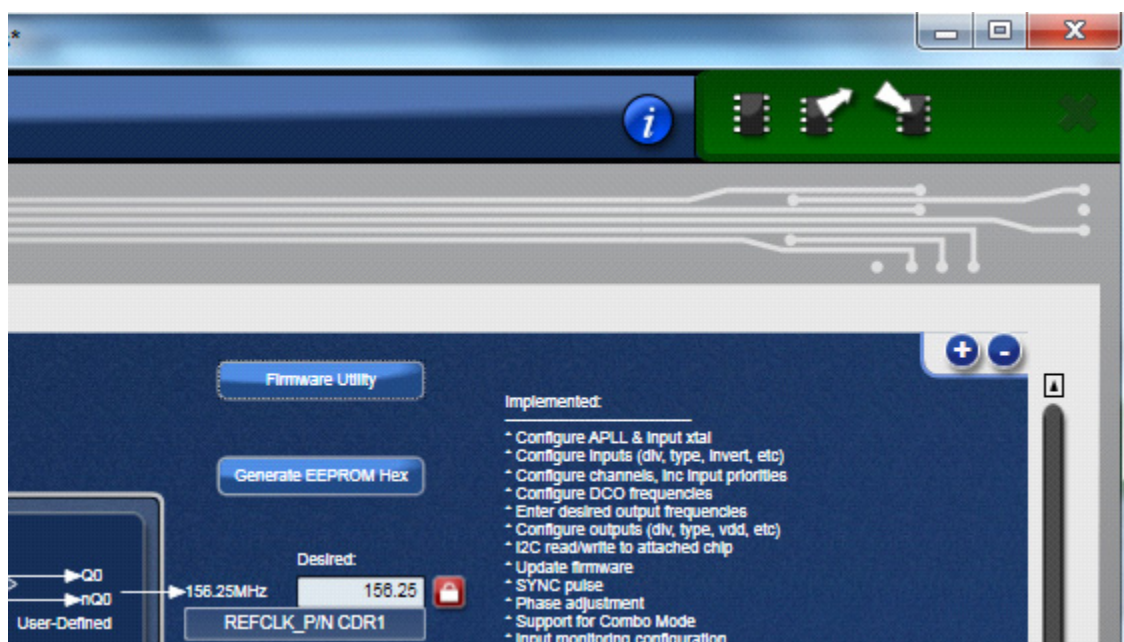

Figure 12. A Green Band Appears when a Valid Connection is Made
6. Click on the chip symbol at the upper-right corner of the GUI window to initiate the connection. The connection is valid when a green band appears at the upper-right corner of the window, as shown in Figure 12.